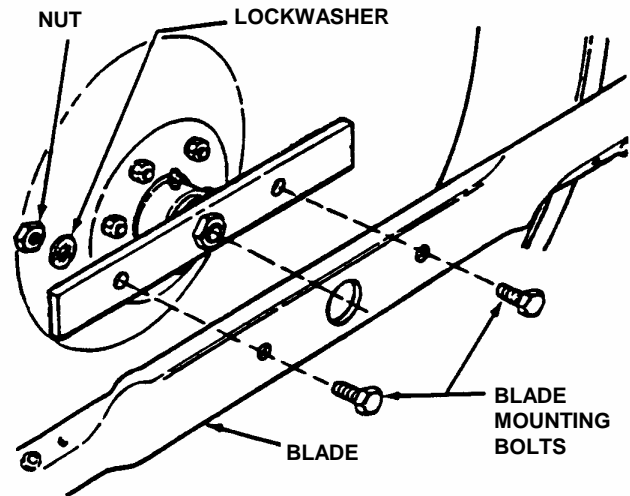

FIGURE 4.12
8. Reinstall blade. See Figure 4.12. Torque blade mounting bolts to recommended range of 30 to 40 ft. lbs.
4. Remove blade. See Figure 4.12.